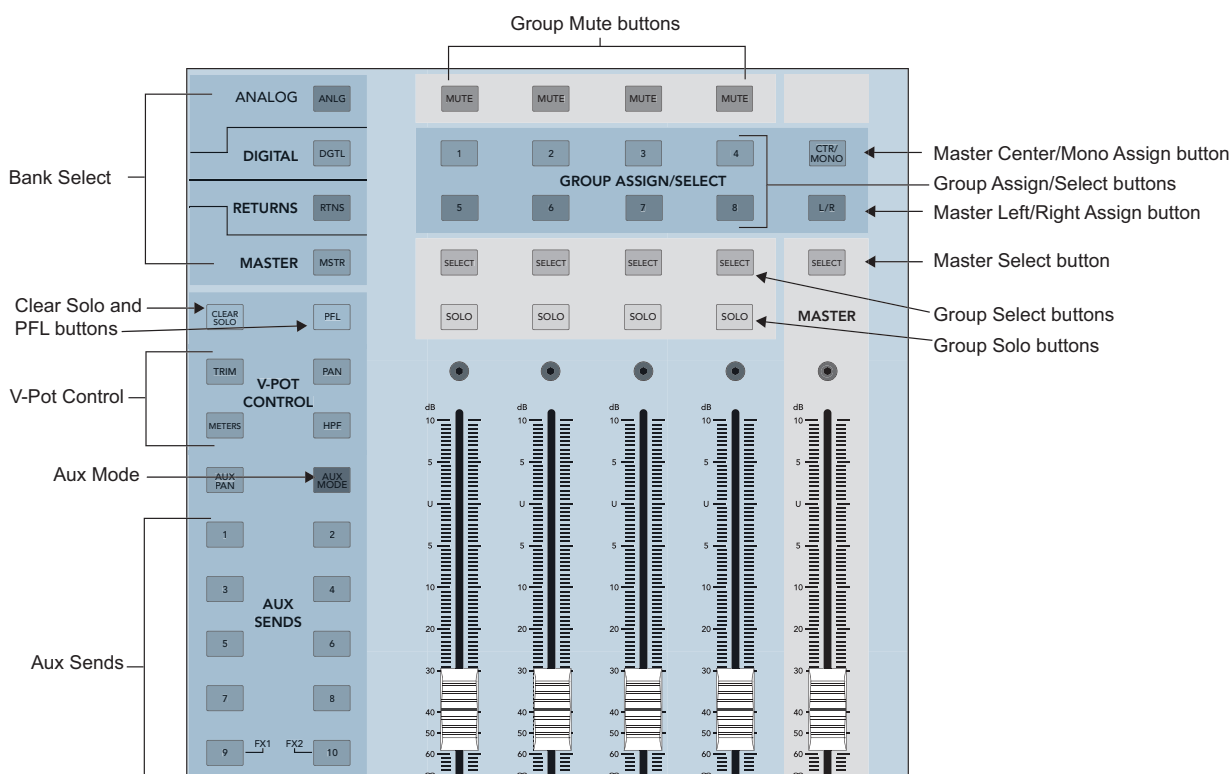

Figure 2-3 Aux, Group, and Master areas
9. Press and hold the **L/R** button in the **GROUP ASSIGN** area (Figure 2-3) and activate channel 1's **SELECT** button.
13. Press **AUX SENDS 1** in the V-POT CONTROL area (Figure 2-3).
5. Press the **PAN** button in the V-POT CONTROL area (Figure 2-3).